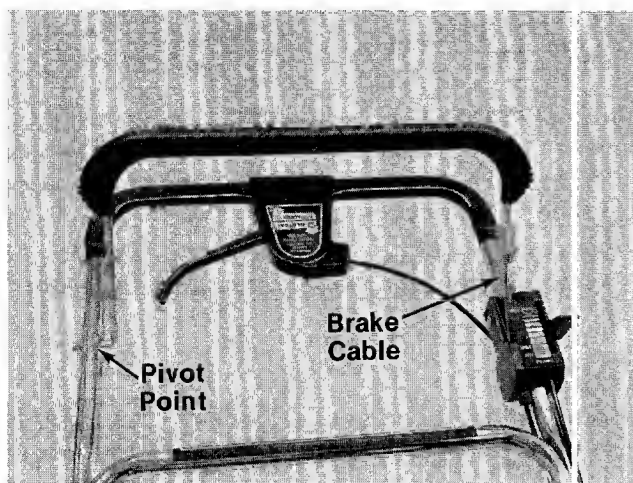

FIGURE 21.
**Blade Control**—Lubricate the pivot points on the blade control handle and the brake cable at least once a season with light oil. See figure 21. The blade control must operate freely in both directions.